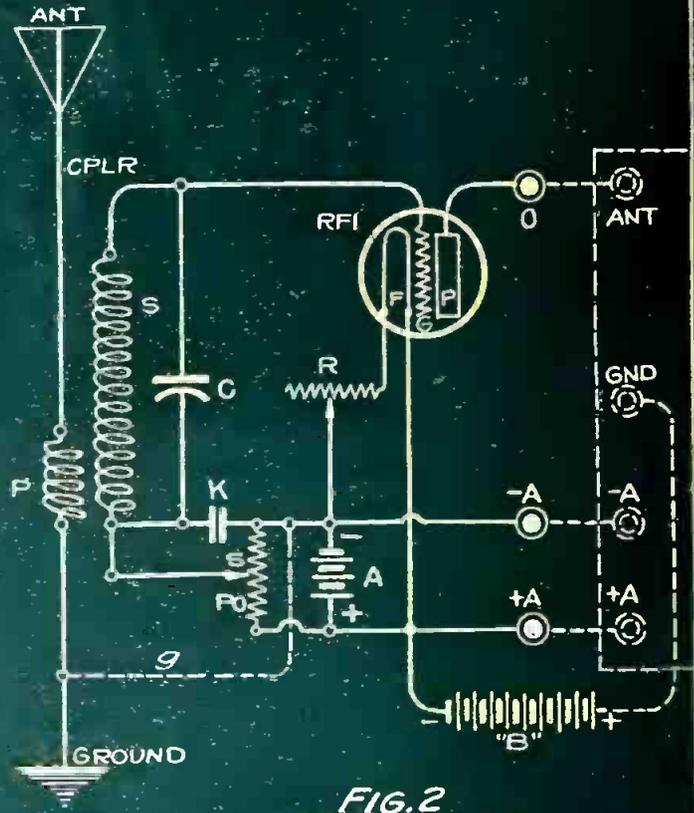

FIG. 2
By means of the coupler or air-core transformer (CPLR) in Fig. 2, the first radio frequency stage can be tuned to the desired wavelength in the usual manner, thus attaining selectivity from the start. The primary coil (P) is connected to the antenna (ANT) at one end and to the ground at the other, only a few turns of wire being employed in this coil so that the lower wavelengths will pass through as easily as the long waves. By placing (P) in inductive relation to the secondary coil (S), radio frequency currents are induced in the
cases to connect the outer end of the grid leak to the (+A) line instead of leaving it in the position shown by Fig. 3. However, nothing of this sort is required in Fig. 2 where the plate and grid circuits are effectually separated by the air space between coils.